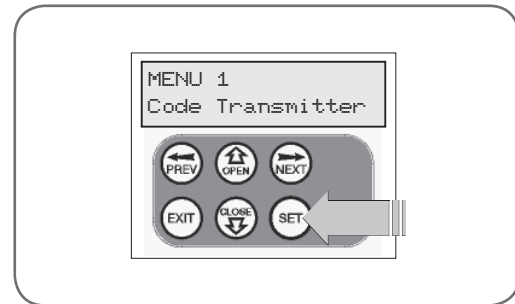

fig 25
2. Press SET to enter the code set procedure (Fig. 25).